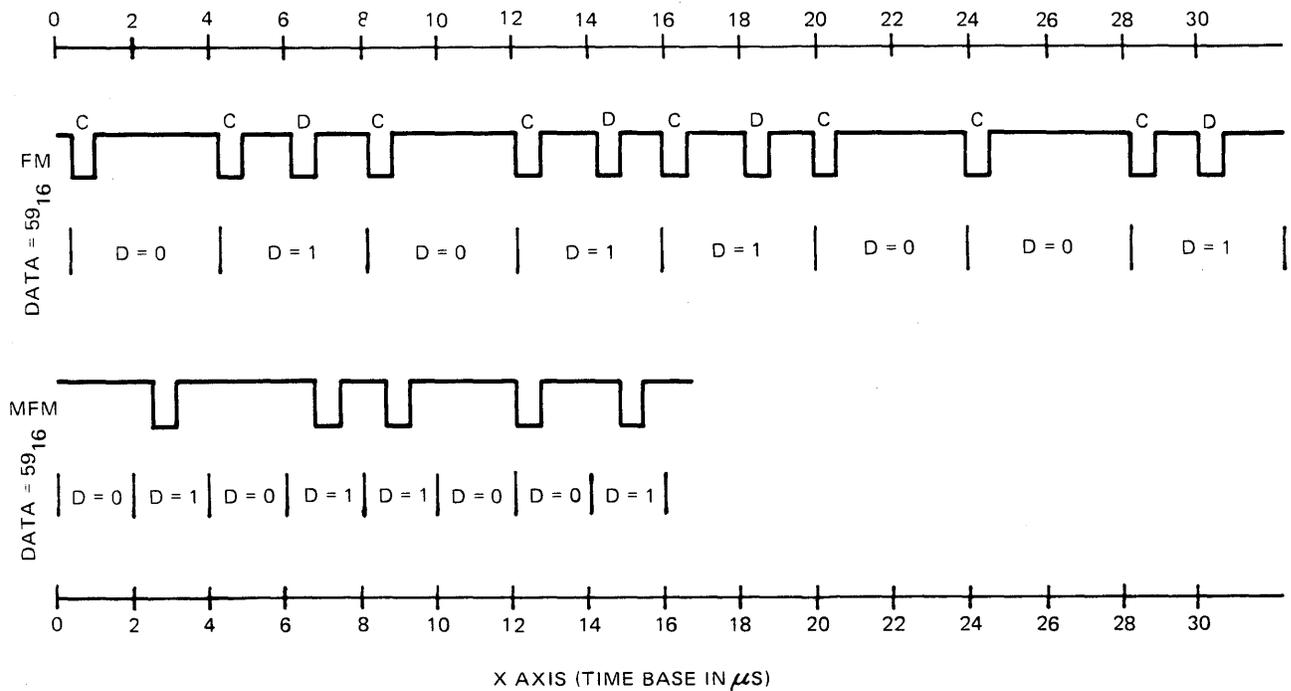

Figure 9-4. FM vs. MFM Recording
A "bit cell" is an abstract term referring to the nominal amount of time used to partition a bit-wide stream into component time-based values. Generation of the X-axis (reference clock) is the function of the host system controller. Without superimposing the X-axis, the value of the bit stream at a given time is impossible to determine. Figure 9-4 compares FM and MFM recording of a bit stream with a value of 01011001.
9.3.1 Single Density (FM)
Frequency Modulation (FM) is a self-clocking encoding scheme used to record bit serial data on magnetic media. Bit cell clocking is achieved by first writing a one bit flux reversal to define the leading edge of the cell. If the data value of the cell is a one, a second flux reversal will occur approximately midway through the bit cell. If it is a zero, there will be no further flux reversals until the leading edge of the next bit cell. The bit cell time for single density is four microseconds. The pulse width for a one bit (either clock or data) is 300 ns. See Figure 9-4.
Modified Frequency Modulation (MFM) is a bit serial encoding scheme used to record data on magnetic media. Unlike FM, MFM does not provide clocking pulses to create a cell. In MFM, the data window (bit cell) generation requires the host system floppy disk controller to derive a reference clock from the incoming data bit stream that can be used to define bit cell boundaries. The nominal bit cell time for MFM is two microseconds. See Figure 9-4.